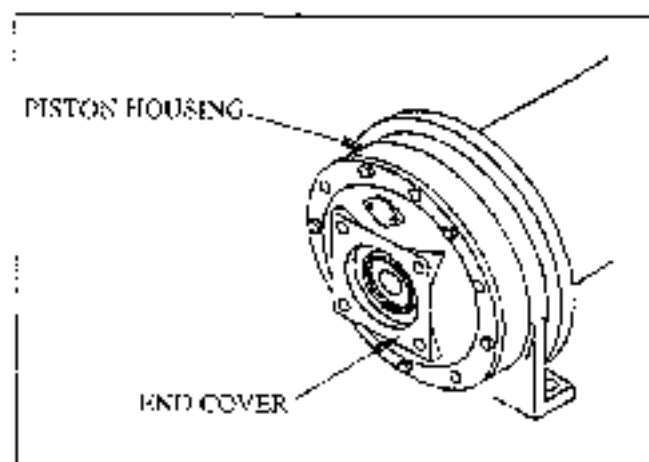

Figure 35
17. Coat the mating surfaces of the piston assembly and the end cover with liquid gasket. Install the end cover. Tighten opposite cap-screws evenly, around the cover to prevent binding while compressing the belleville spring. See Figure 35. Inspect the outboard bearing of the hub to insure a clearance of .005" between it and the shoulder in the end cover. If a preload occurs, the bearings will fail prematurely. Adjust the shims between the end cover and the piston housing to prevent this situation.